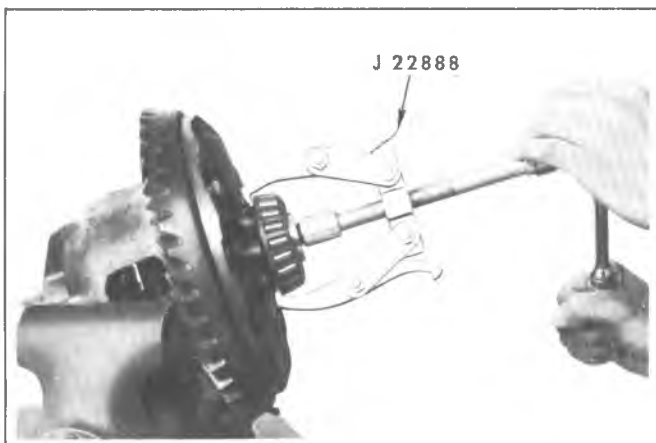

Fig. 3C--Removing Differential Bearing
1. Place Puller J-22888 over differential bearing using Adapter Plug J-8107 in side gear bore. Tighten puller screw to remove bearing as in figure 3C.